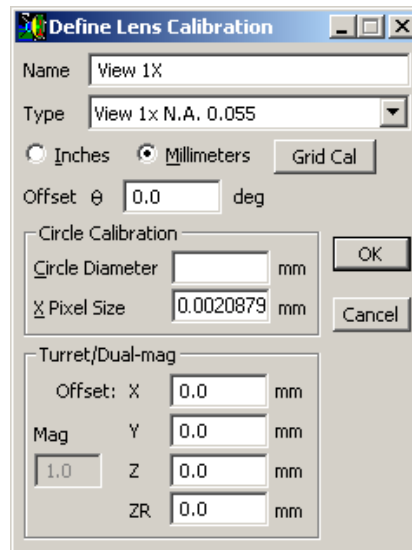

Figure 8-9 Define Lens Calibration Window
6. Click **Modify** to display the Define Lens Calibration window (see Figure 8-9).
30. From the list, select the lens that is currently installed (for example, “View 1X”). Then click **Modify** to display the Define Lens Calibration window (see Figure 8-9 on page 131).